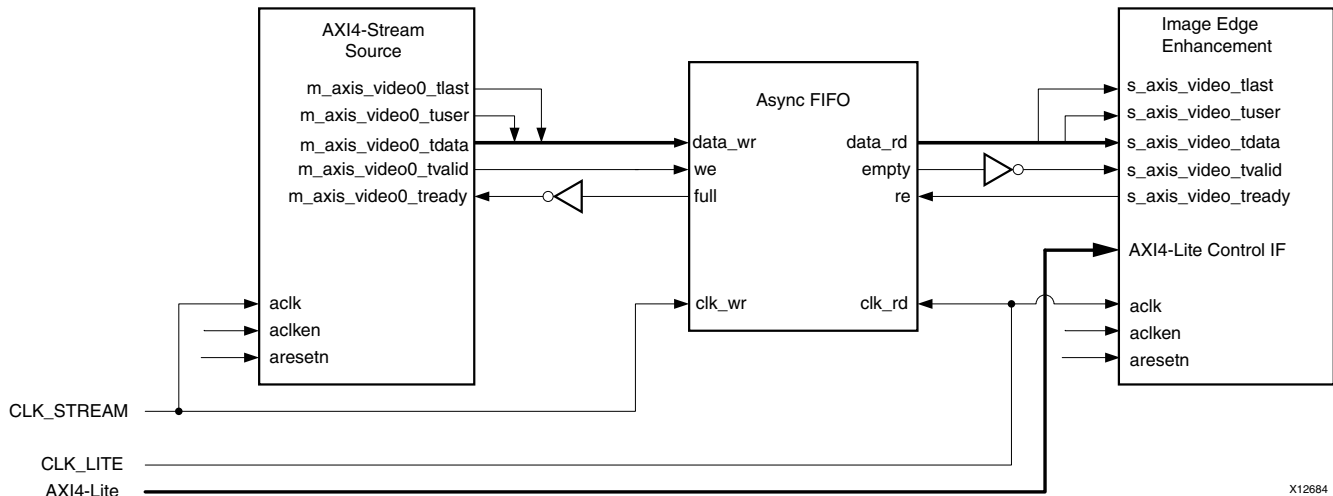

Figure 4-3: Image Edge Enhancement CORE Top-Level Signaling Interface
- ($F_{CLK_STREAM} < F_{CLK_LITE}$) then clock-domain crossing logic needs to be inserted before the AXI4-Stream interface, and the Image Edge Enhancement core needs to be clocked at the AXI4-Lite clock via the `ACLK` pin, as shown in Figure 4-3. Alternatively, if F_{CLK_LITE} greater than of the F_{MAX} of the Image Edge Enhancement core, clock domain crossing logic can be inserted in front of the AXI4-Lite Control interface.
In either case, Xilinx System Integrator tools, such as EDK, can automatically infer clock-domain crossing logic using the AXI interconnect core, when the tool detects that the master / slave side of AXI4 interfaces operate on different CLK rates. For manual instantiation of clock-domain crossing logic, HDL users can take advantage of the FIFO Generator IP core, as shown in Figure 4-3.